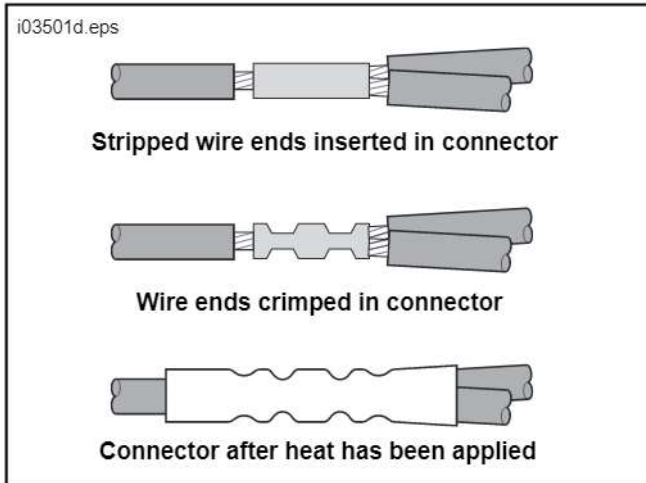

Figure 11. Installing Butt Connectors
15. See Figure 11, and the BUTT SPLICE CONNECTORS section of the Service Manual. Insert the red wire from each lighted screw into one end of a butt-splice electrical connector (15) from the kit, and secure with a Crimp Tool, Part No. H-D 38125-8.
16. Slide a piece of heat-shrink tubing (16) from the kit over the end of the red wire from the Accessory connector. Remove approximately 3/8 in. (10 mm) of insulation from the end of the wire, and insert it into the other end of the butt-splice connector. Secure with the Crimp Tool.